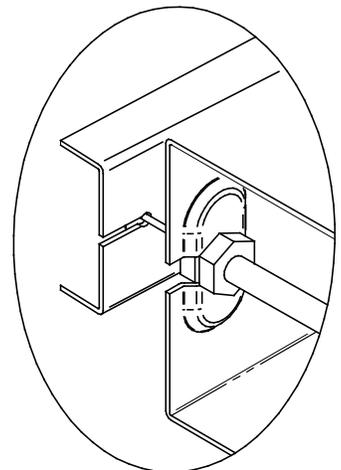

FIG. 9
1. Assemble the operating cable to the fountain bracket. (Fountain should be mounted to exterior wall). The adjustment nuts should be in the middle of threaded area on the operating cable. See Figure 9. Create a loop in the cable and thread the free end of the cable through the wall into the freeze resistant box.